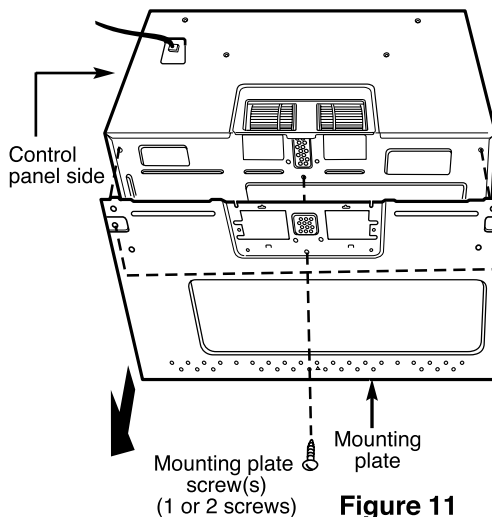

Figure 11
3. Remove mounting plate screw(s) (1 or 2 screws) from the mounting plate as shown and discard. (See Figure 11.)